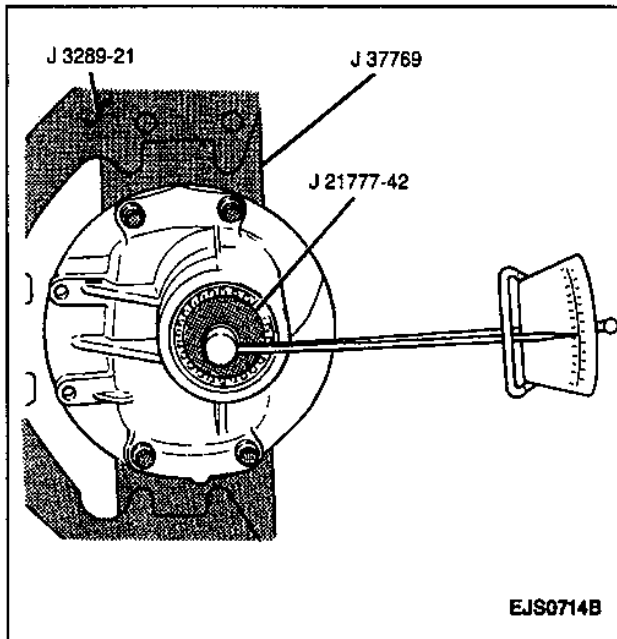

Figure 71—Adjusting Jam Nut Torque
3. Hold the J 21777-43 stationary and tighten the jam nut to 2 N·m (18 lb. in.) (Figure 71).